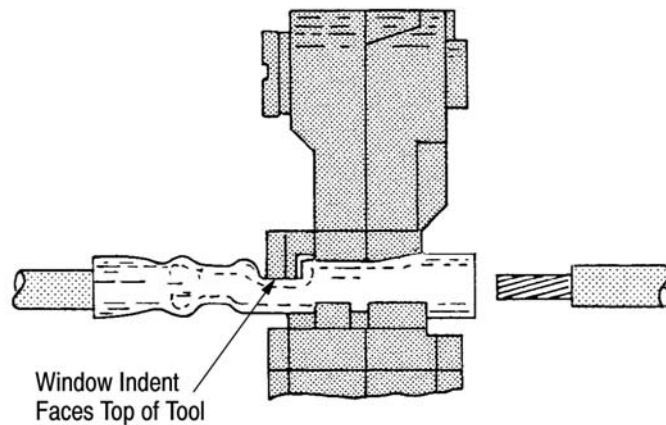

Figure 5
4. Raise locator and place splice under locator as shown in Figure 5. Splice window indent faces top of tool.
NOTE *To properly position pre-insulated sealed splice, apply and maintain pressure against end of splice until Step 5 is completed. See Figure 5.*
6. Insert stripped wire into terminal until conductor butts against locator. See Figure 4. Insert stripped wire into splice until conductor butts against wire stop. See Figure 5.
8. Repeat Steps 1 through 7 to perform the second crimp on a butt splice. See Figure 5.
3. Insert UNSTRIPPED wire into ONLY the insulation barrel (see Figure 4 or Figure 5) of terminal or splice.